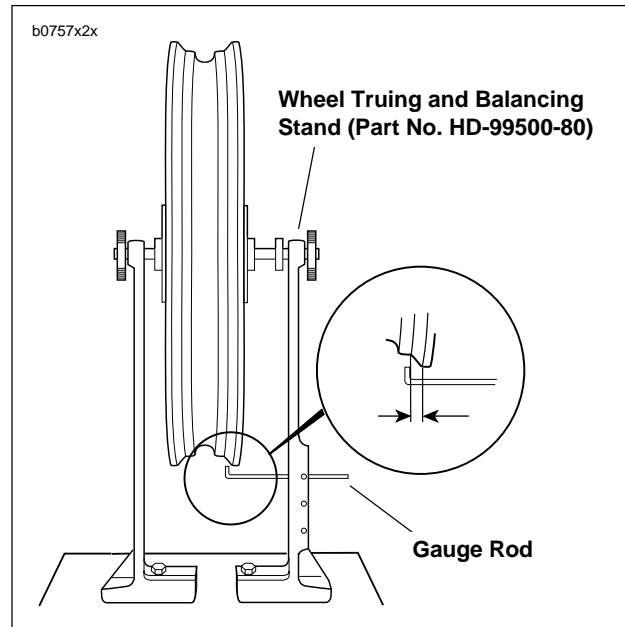

Figure 2-13. Checking Cast Rim Lateral Runout
1. See Figure 2-13. Install truing arbor in wheel hub and place wheel in WHEEL TRUING AND BALANCING STAND (Part No. HD-99500-80).